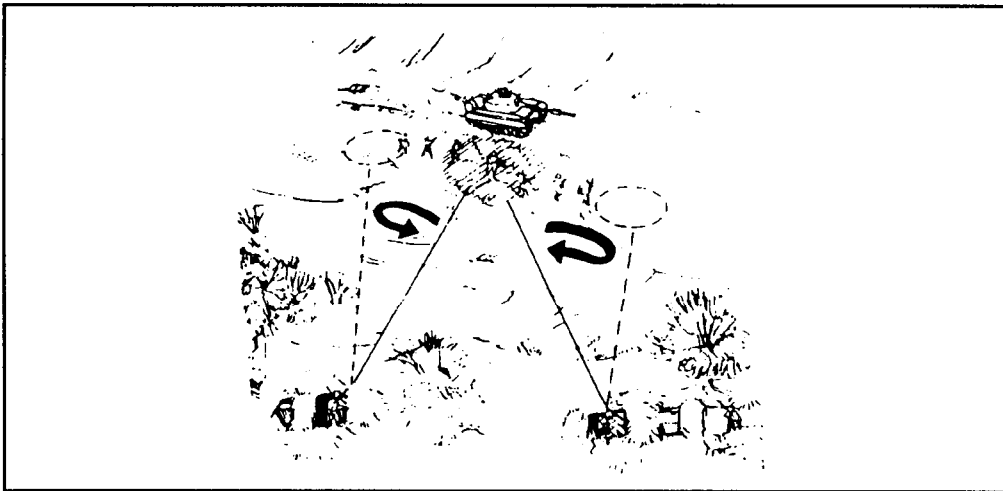

Figure 6-17. Engagement of linear target with depth with a pair of automatic riflemen.
(4) *Linear Target with Depth.* When using a pair of M249s to engage a linear target with depth, the initial point of aim and the extent of manipulation for both automatic riflemen is the same as those prescribed for linear targets (Figure 6-17).